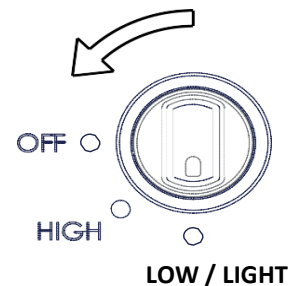

Figure 1
Situated at top of control, control knob is set correctly when appropriate symbol is alongside position indicator. (See Figure 1)
- Push gas control in and turn it fully anti-clockwise to "low/light" position (*Refer to Figure 1*).
When work is completed, switch fryer off (*See Figure 1*).